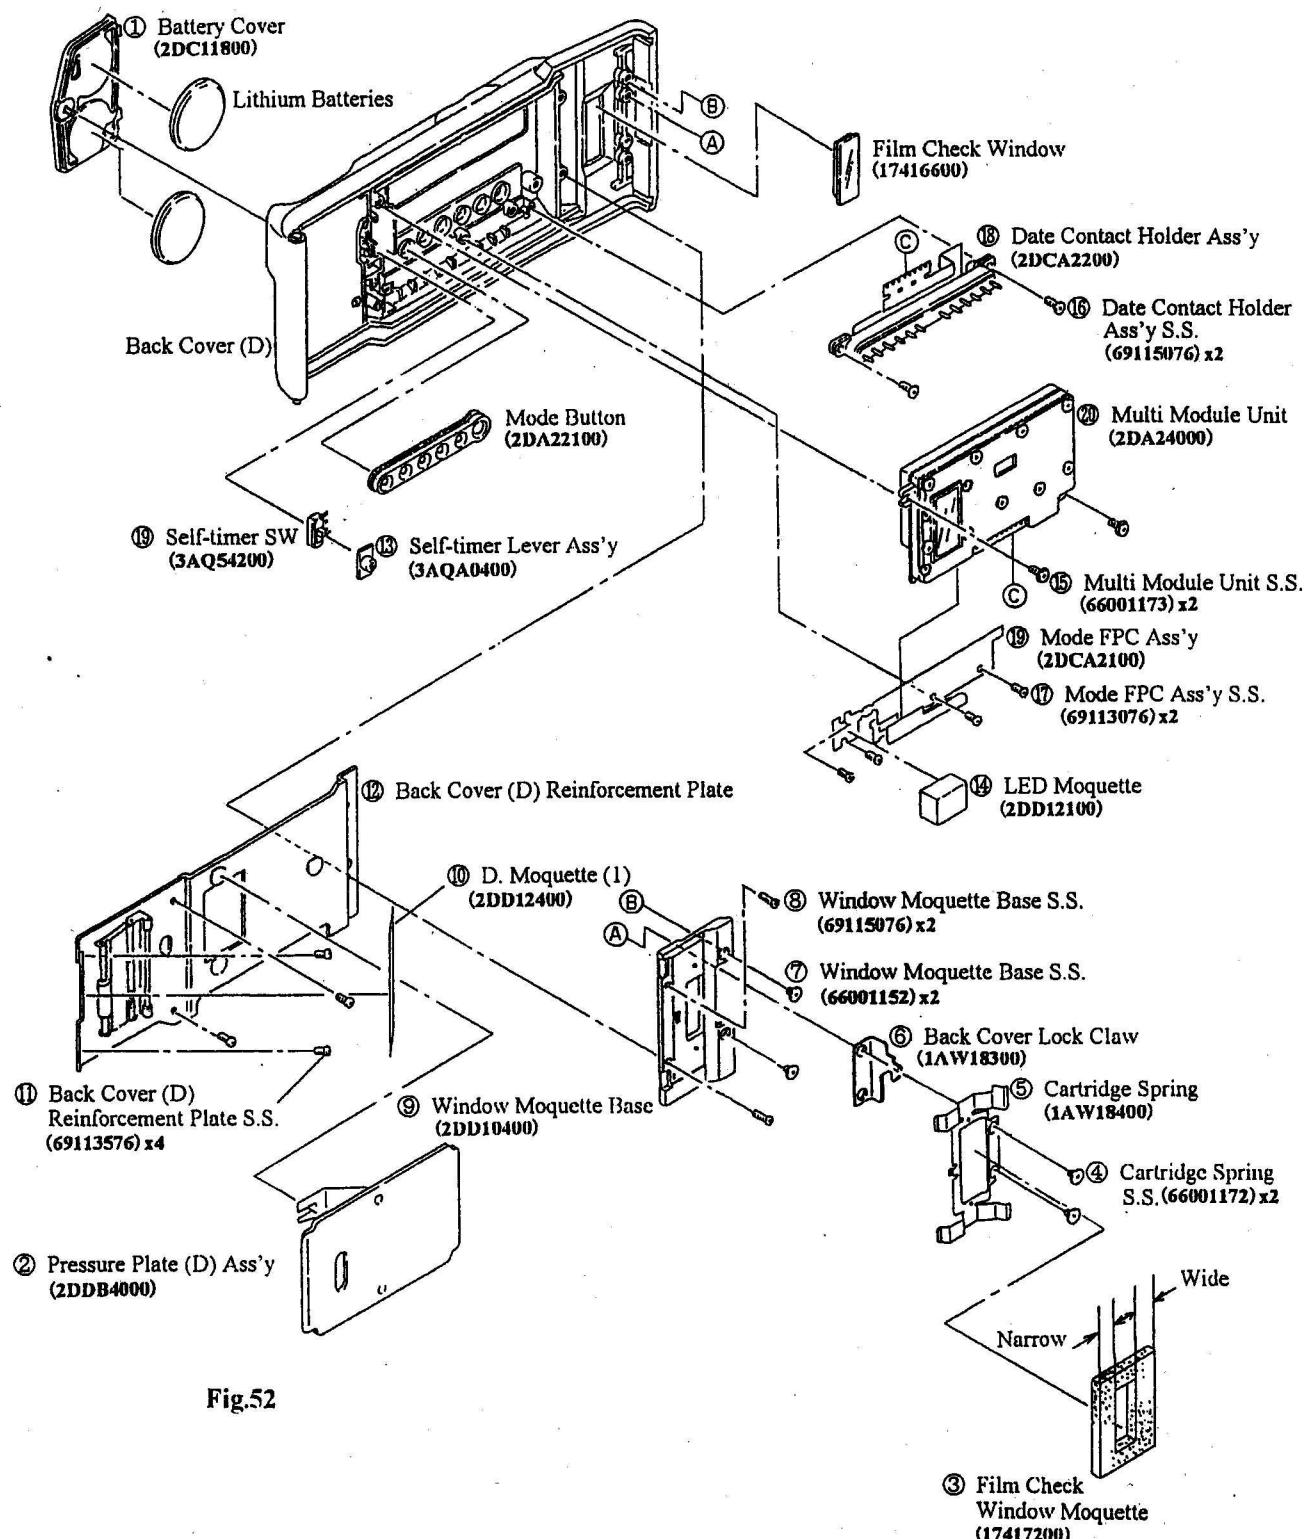

Fig.52
- 1) Remove the parts in the order of ① to ⑩ shown in Fig. 52.
- b) Stick the Film Check Window Moquette (17417200) in the position as shown in Fig. 52.
(See Fig. 52)